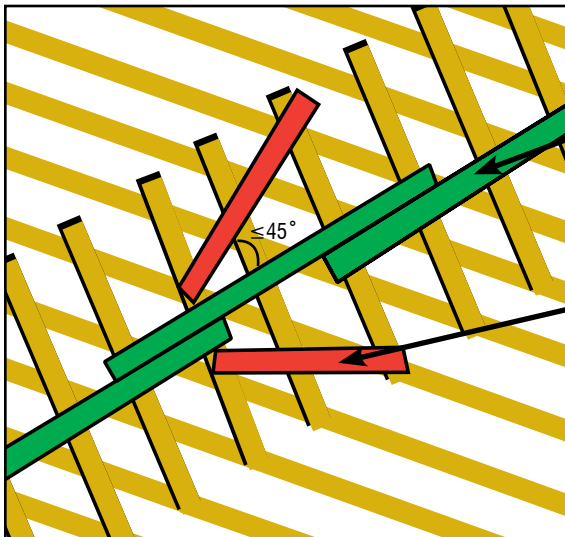

FIGURE B3-12
- ✓ Attach the Lateral Restraint at the locations shown on the TDD together with a Diagonal Brace at an angle of less than or equal to  $45^\circ$  to the Lateral Restraint (see Figures B3-12 and 13). Position the Diagonal Brace so that it crosses the web in close proximity to the Lateral Restraint. The Diagonal Bracing should be attached as close to the Top and Bottom Chord Plane as possible and to each web that it crosses. This provides rigidity that prevents the Webs from displacing laterally.